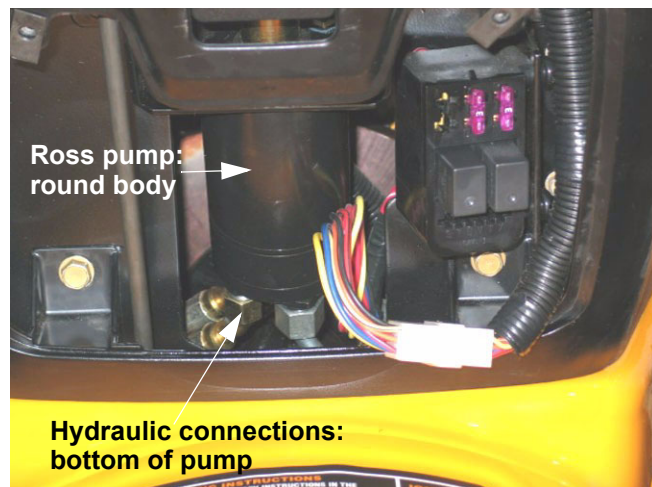

Figure 3.1
- 3.1. **Identification:** Series 7000 tractors built before the 2004 model year are equipped with a Sauer steering pump. The body of the Sauer pump is round in cross-section. O-ring fittings for the hydraulic lines are located on the bottom surface of the pump. See Figure 3.1.